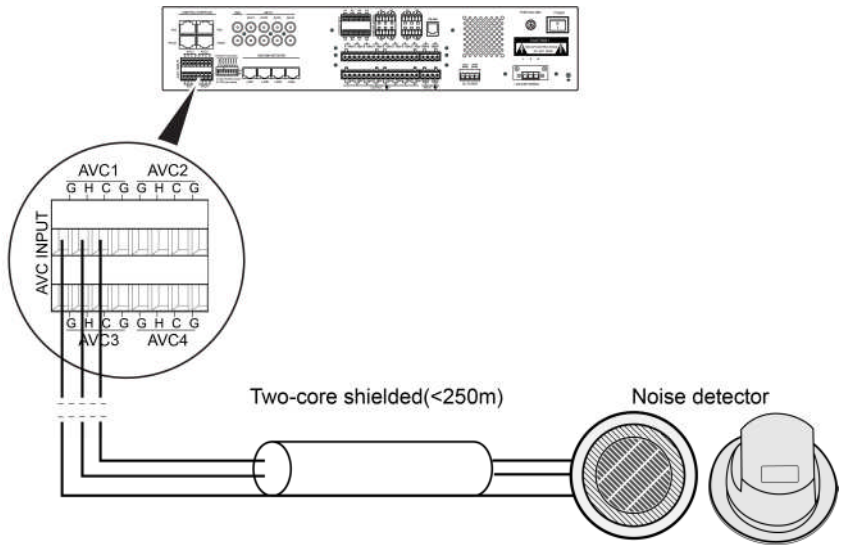

Figure 20 Schematic Diagram of the Noise Detector Connection
3. Install the noise detector on the other end of the AVC cable, as shown in Figure 20.